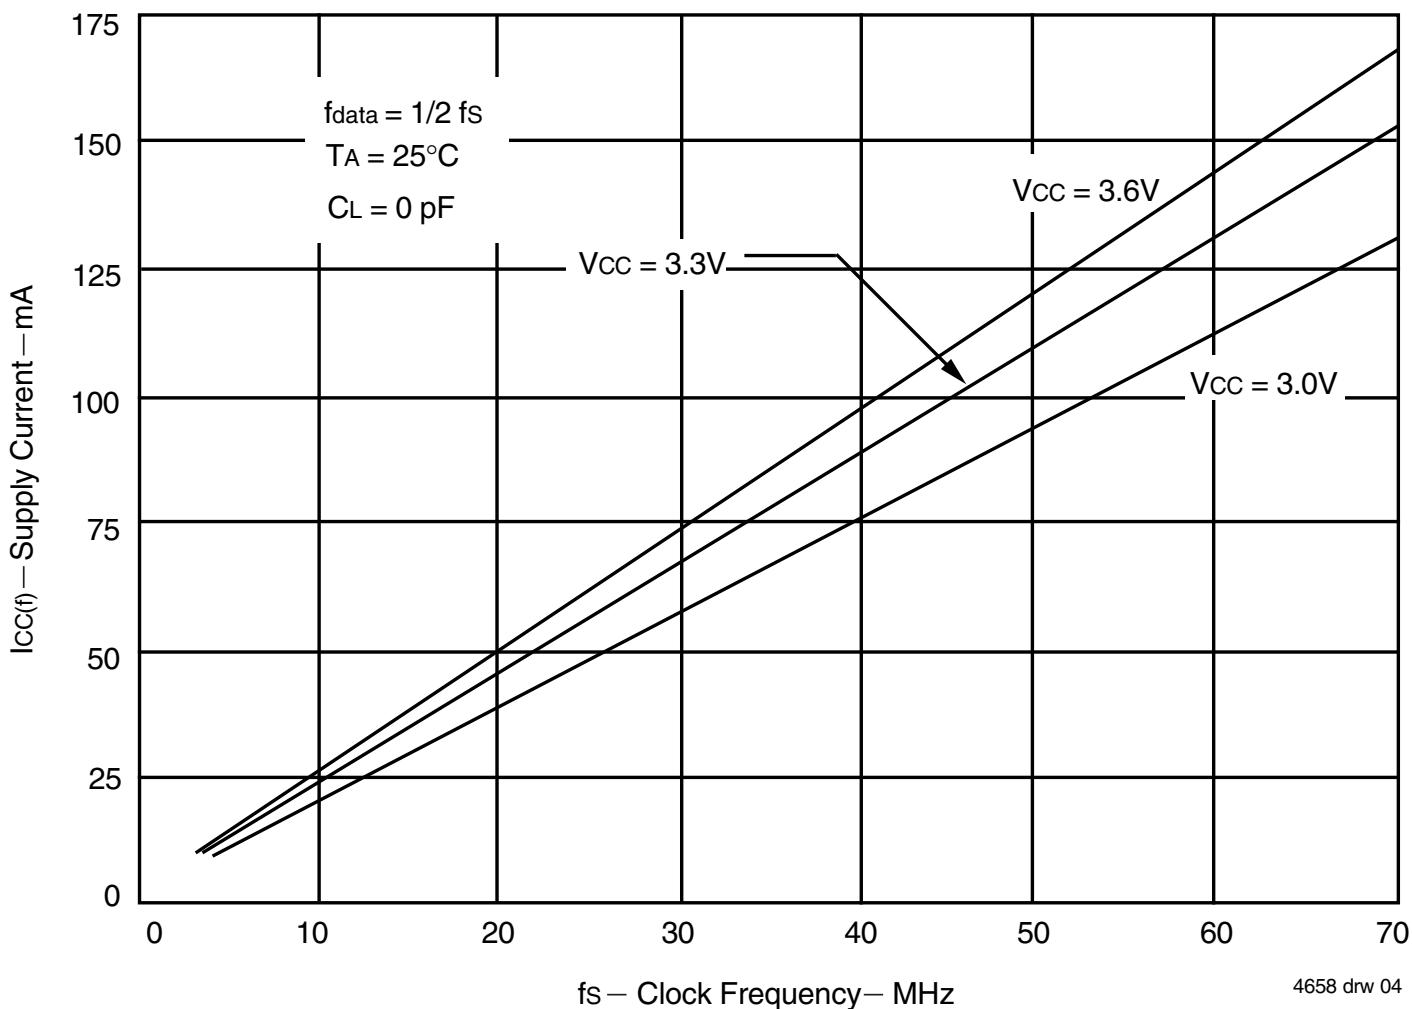

Figure 1. Typical Characteristics: Supply Current ( $I_{CC}$ ) vs. Clock Frequency ( $fs$ )
2. For additional ICC information, see Figure 1, *Typical Characteristics: Supply Current (ICC) vs. Clock Frequency (fS)*.
The  $I_{CC(f)}$  current for the graph in Figure 1 was taken while simultaneously reading and writing the FIFO on the 72V3641 with CLKA and CLKB set to  $fs$ . All data inputs and data outputs change state during each clock cycle to consume the highest supply current. Data outputs were disconnected to normalize the graph to a zero-capacitance load. Once the capacitance load per data-output channel and the number of 72V3631/72V3641 inputs driven by TTL HIGH levels are known, the power dissipation can be calculated with the equation below.
With  $I_{CC(f)}$  taken from Figure 1, the maximum power dissipation (PT) of these FIFOs may be calculated by: